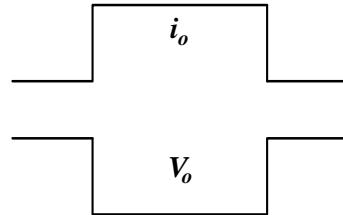
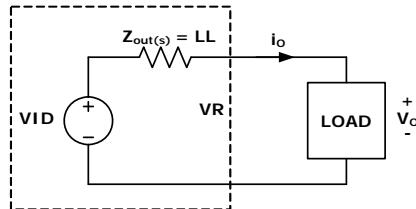

FIGURE 14. DESIRED LOAD TRANSIENT RESPONSE WAVEFORMS
FIGURE 20. VOLTAGE REGULATOR EQUIVALENT
Assuming the compensator design is correct, Figure 14 shows the expected load transient response waveforms if  $C_n$  is correctly selected. When the load current  $I_{core}$  has a square change, the output voltage  $V_{core}$  also has a square response.
Figure 14 shows the desired load transient response waveforms. Figure 20 shows the equivalent circuit of a voltage regulator (VR) with the droop function. A VR is equivalent to a voltage source (= VID) and output impedance  $Z_{out}(s)$ . If  $Z_{out}(s)$  is equal to the load line slope  $LL$ , i.e. constant output impedance, in the entire frequency range,  $V_o$  will have square response when  $I_o$  has a square change.